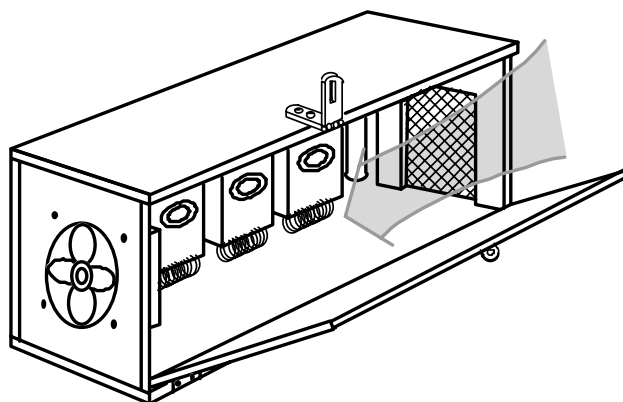

Figure 2. An aspirated box is recommended for shielding permanently installed greenhouse sensors from solar heat gain.
2. What is the instrument measuring? The instrument can only read what it is exposed to. Be aware of what part of the instrument does the sensing. Installing an instrument within an environment can alter the conditions immediately adjacent to the instrument. For example, positioning an air velocity meter in the jet of air exiting a fan disturbs that air by forcing it to go around the meter. The measured velocity represents a disturbed airflow. Often this effect cannot be completely avoided. Avoid standing directly in the air jet exiting a fan since your body adds a large obstruction to airflow; instead stand to the side of the fan away from the air jet. Similarly, a temperature probe positioned in direct sunlight will indicate a higher temperature than a probe positioned more appropriately in shade or inside an aspirated box (Figure 2).